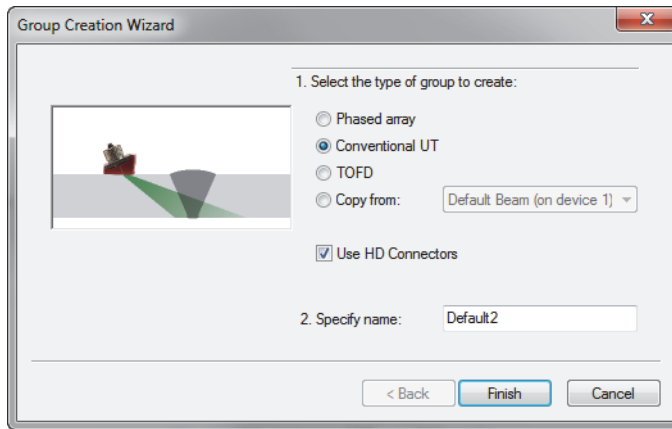

Figure 4-13 Group Creation Wizard dialog box (conventional UT)
2. In the **Group Creation Wizard** dialog box that appears (Figure 4-13 on page 110), proceed as follows: